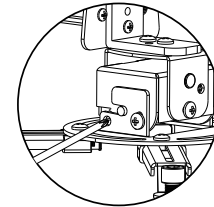

figure 6
6. Attached the Adjustor to the "L" Bracket (figure 6).